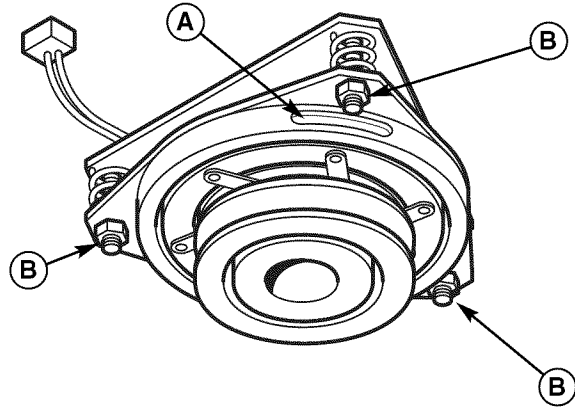

Figure 27. PTO Clutch Adjustment
2. Note the position of the 3 adjustment windows (A, Figure 27) in the side of the brake plate and the nylock adjustment nuts (B).